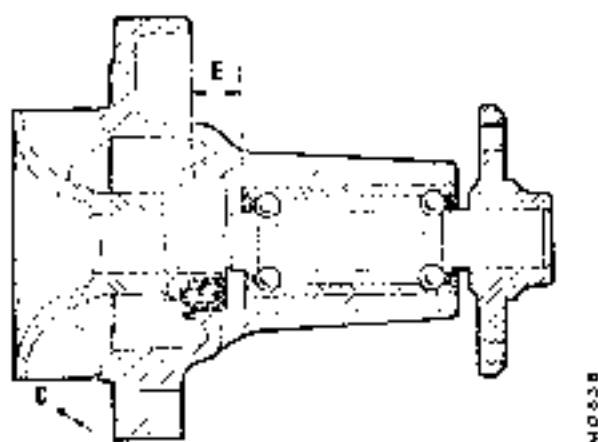

Fig. C.5
10. Press the spindle bearing assembly into the pump body and take measurement 'C', Fig. C.5, adjust the